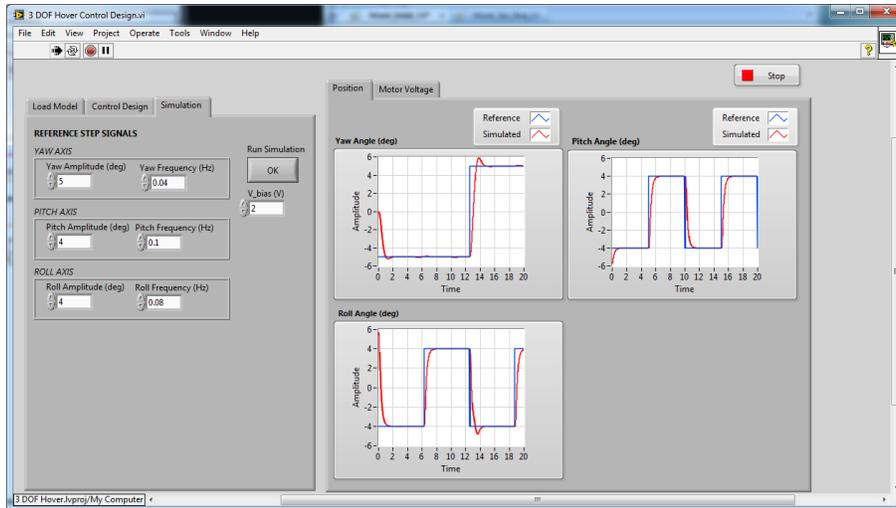

Figure 3.1: VI used to simulate 3 DOF Hover system
In this section we will use the LabVIEW VI shown in Figure 3.1 to simulate the closed-loop control of the Quanser 3 DOF Hover system. The system is simulated using the linear model summarized in Section 2.1. The VI model uses the state-feedback control described in Section 2.2. The feedback gain  $K$  is found using the LQR command (LQR is described briefly in Section 2.2.2). The goal is to make sure the generated gain can stabilize the system while not saturating the dc motors.
3. Open the VI called *3 DOF Hover Control Design.vi*, shown in Figure 3.1.
7. Open the *3 DOF Hover Control Design* VI, shown in Figure 3.1.